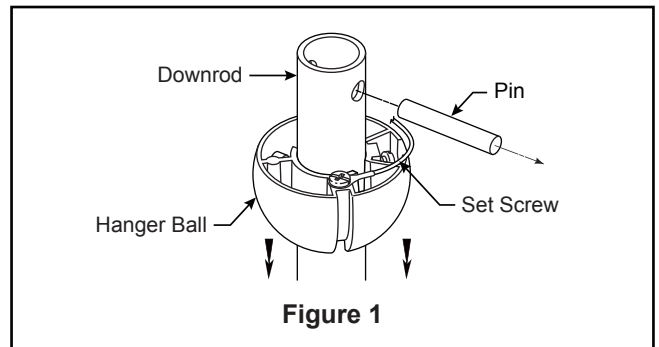

Figure 1
1. Remove the hanger ball portion from the downrod/hanger ball assembly by loosening the set screw in the hanger ball until the ball falls freely down the downrod. Remove the pin from the downrod, then remove the hanger ball. Retain the pin and hanger ball for reinstallation in Step 6. (Figure 1)